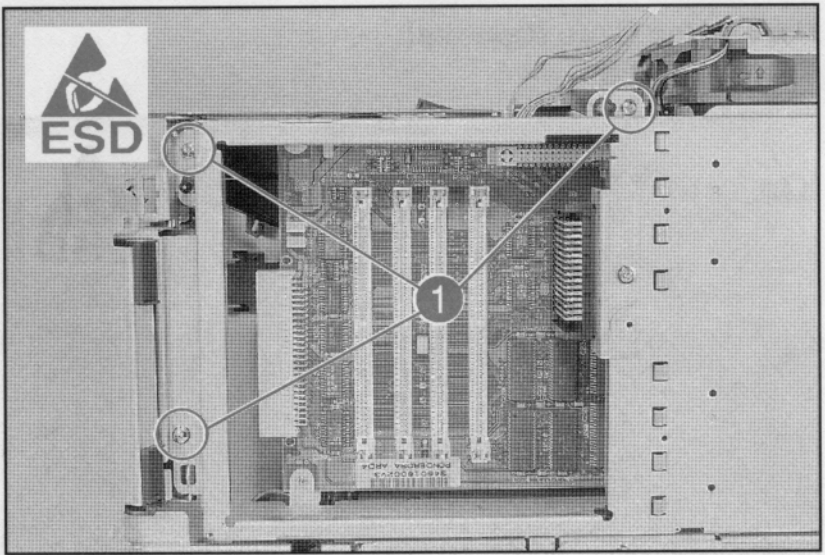
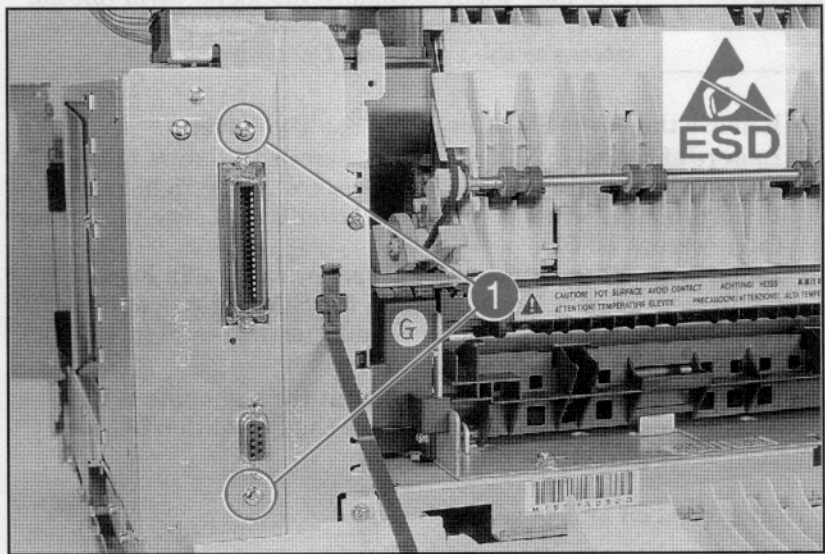

Figure 6-24b Formatter Cage Screws (Right Side View - LaserJet 4 Plus)
Figure 6-24c Formatter Cage Screws (Rear View - LaserJet 4 Plus)
- 3 **LaserJet 4 Plus:** Remove the (3) screws shown in Figure 6-24b (one screw is located behind the SIMM door), and the (2) screws on the right rear of the printer (shown in Figure 6-24c).